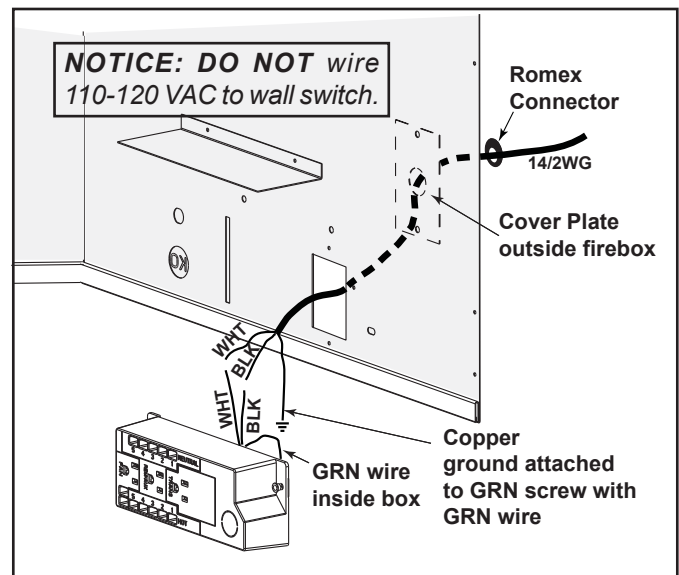

Figure 8.2 Junction Box Detail
- Remove the screw attaching the junction box/receptacle to the outer shell, rotate the junction box inward to disengage it from the outer shell. See Figure 8.2.
- Pull the electrical wires from outside the appliance through the opening into the valve compartment and secure wires with a Romex connector. See Figure 8.2.
- A 110-120 VAC junction box MUST be installed for use with a fan or remote control. See Figure 8.2 for junction box wiring. Keep wire lengths short as possible.